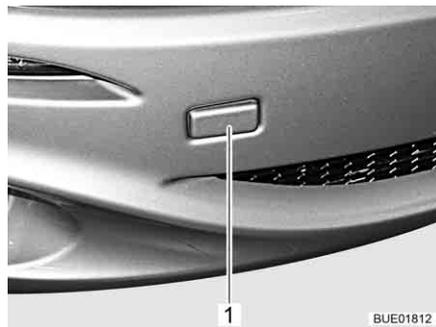

Fig. 48 Cover for the towing eye holder
- Remove the cover (Fig. 48,1).